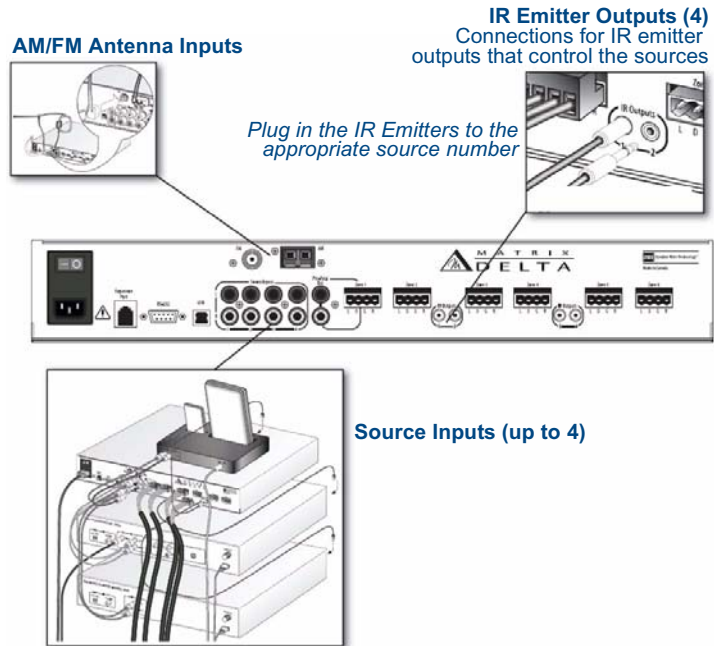

FIG. 2 Connect the Source Units to Delta
3. Attach the emitter by peeling and sticking the supplied adhesive patch on the emitter. If an on-board tuner is pre-installed into Delta, you must also connect AM and FM antennas as shown in FIG. 2.
RCA connections for 2-channel audio input from up to 4 external sources (unless an AM/FM tuner board is present, which internally takes up the Source #1 location - then it's 3 additional sources). FIG. 2 shows an example of a DVD player, CD player, and iPod docking device all connected to Delta. The fourth source is the internal AM/FM tuner.